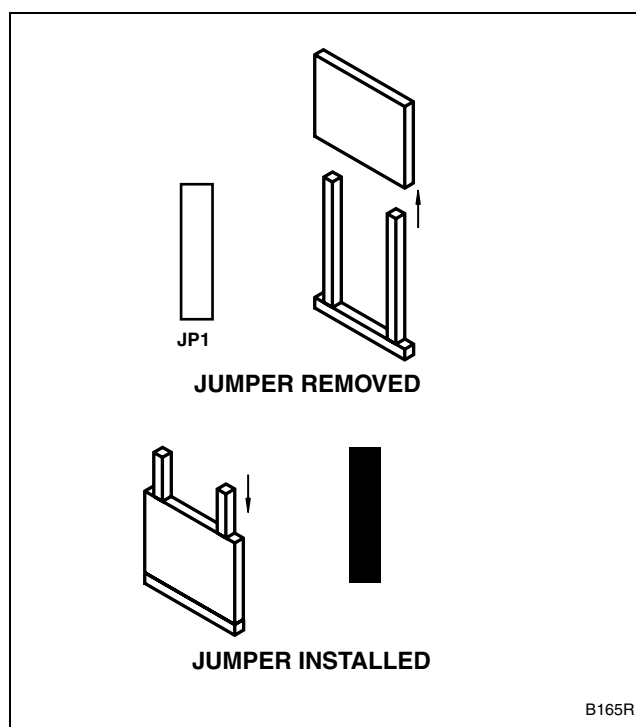

Figure 1
5. Install or remove jumpers on the odd side to set desired cycle time. Refer to *Figure 1* and *Table 1* for jumper configurations for odd-side options.
- Install or remove jumpers to set desired rinse temperature or water level. Refer to *Figure 1* and *Table 2* for jumper configurations for even-side options.